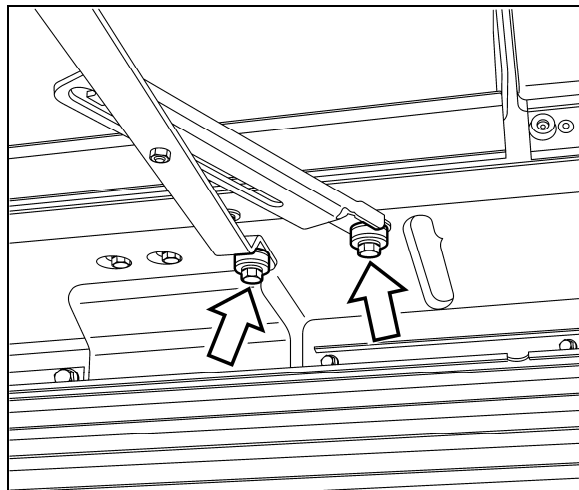

FIGURE 14: UPPER ARM ASSEMBLY
8. Open radiator door to access radiator assembly. Unfasten upper arm assembly (Fig. 14).